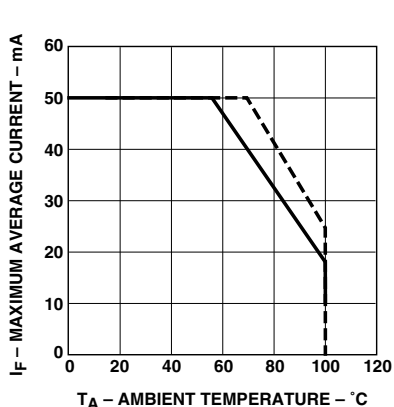

Figure 1. Maximum forward current vs. ambient temperature. Derating based on $T_{JMAX} = 130^{\circ}C$.
1. Derate linearly as shown in Figure 1.